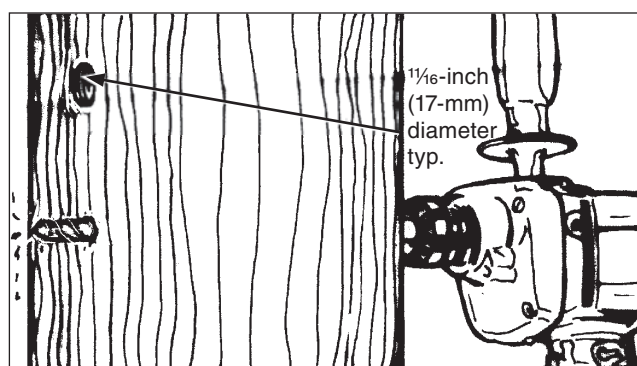

Figure 3. Drilling holes for the switch-mounting bracket.
- STEP 1.** Drill two $\frac{1}{4}$ -inch (17-mm) diameter holes through the utility pole as shown, at the desired height for mounting the switch. See Figure 3. Refer to the erection drawing.